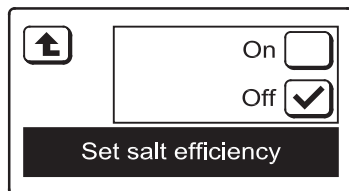

FIG. 66
6. Press the SET SALT EFFICIENCY button and the display will change to show the **Set salt efficiency** screen (See Figure 66).